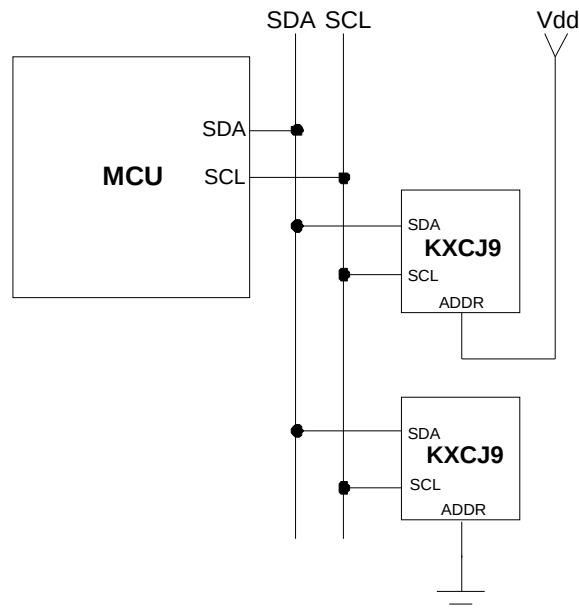

Figure 1. Multiple KXCJ9 I²C Connection
Transactions on the I²C bus begin after the Master transmits a start condition (S), which is defined as a high-to-low transition on the data line while the SCL line is held high. The bus is considered busy after this condition. The next byte of data transmitted after the start condition contains the Slave Address (SAD) in the seven MSBs (Most Significant Bits), and the LSB (Least Significant Bit) tells whether the Master will be receiving data '1' from the Slave or transmitting data '0' to the Slave. When a Slave Address is sent, each device on the bus compares the seven MSBs with its internally stored address. If they match, the device considers itself addressed by the Master. The KXCJ9's Slave Address is comprised of a programmable part and a fixed part, which allows for connection of multiple KXCJ9's to the same I²C bus. The Slave Address associated with the KXCJ9 is 000111X, where the programmable bit, X, is determined by the assignment of ADDR (pin 8) to GND or Vdd. Figure 1 above shows how two KXCJ9's would be implemented on an I²C bus.